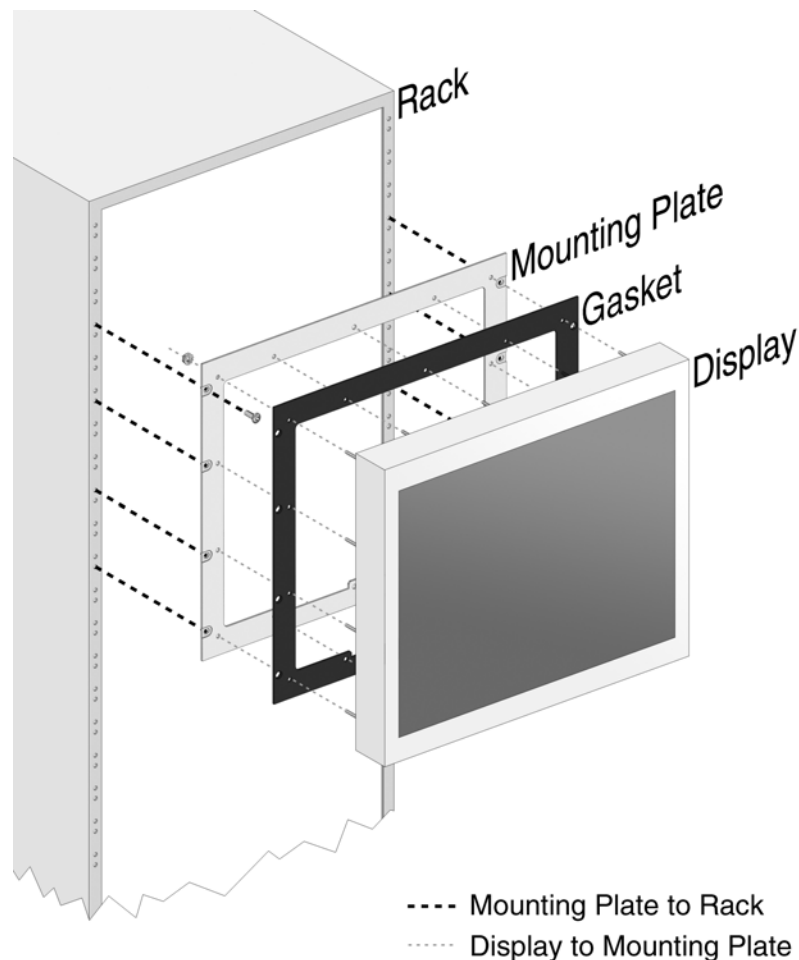

Figure 3: Rack-Mount Landscape Installation
1. Align mounting plate rack-mount holes with server rack mounting holes; see Figure 3 for correct mounting orientation. Ensure gasket faces outward.